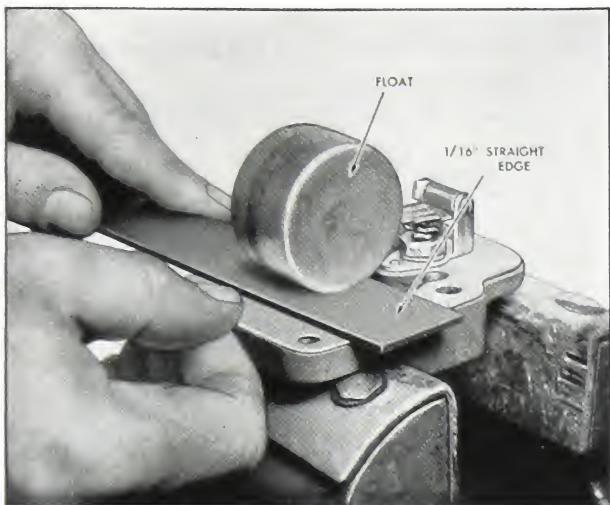

Fig. 5-101. Float clearance
8. Make sure the float and valve are absolutely free and that the float contacts the head of the valve, holding it firmly on the seat in closed position. Otherwise the fuel will overflow at the bottom of the pump. The float should have $1/16"$ clearance as measured with a straight edge between the float and gasket surface. (Fig. 5-101).